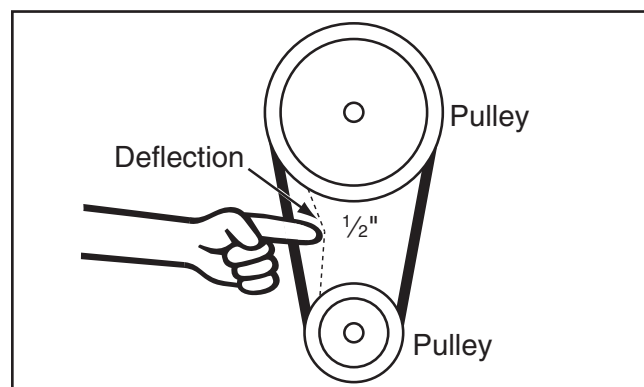

Figure 76. Checking belt tension.
5. Press belt in center to check belt tension. The belt is correctly tensioned when there is approximately 1/2" deflection when it is pushed with moderate pressure, as shown in **Figure 76**.